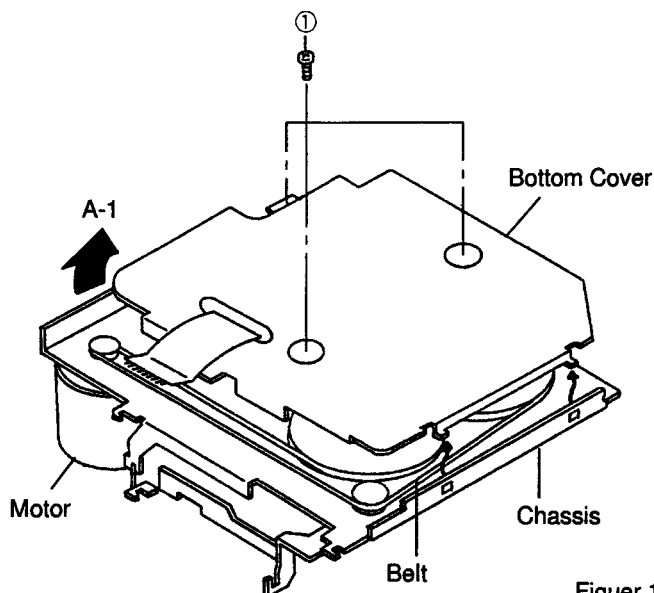

Figure 1
- (1) Turn the mechanism around as shown in Figure 1.
- (2) Remove three screws ① as shown in Figure 1.
- (3) Lift the bottom cover slowly from the position A-1, pull the hooks out of the holes in the chassis, and remove the bottom cover as shown in Figure 1.
- (1) メカを裏返しにします。(図1参照)
- (2) 3本のネジ①を外します。(図1参照)
- (3) A-1部からボトムカバーをゆっくりと浮かし、切り起こしの嵌合部を外し、分解します。(図1参照)